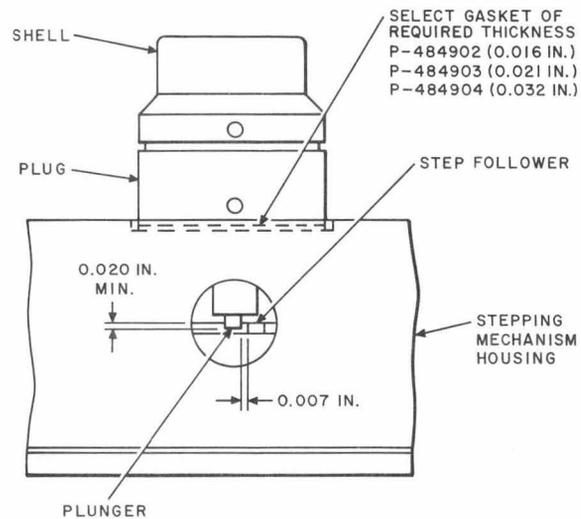
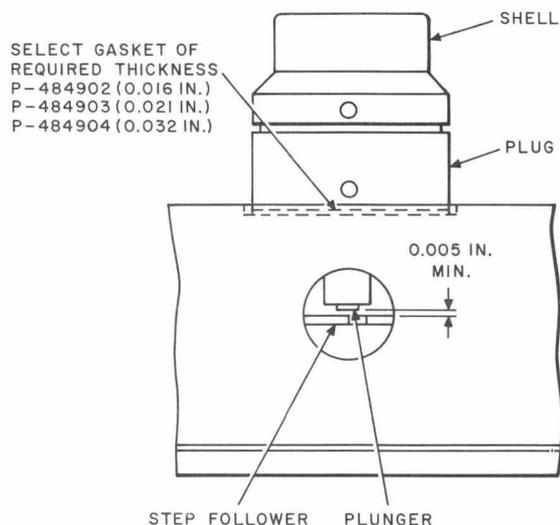

Fig. 30—Minimum Extension of Plunger in Notch of Step Follower
Fig. 31—Minimum Clearance Between End of Plunger and Tip of Step Follower
- (1) Place the reader on its side with the control contact assembly down. Remove the cover from the reading contact assembly and remove the four mounting plate screws, using the proper size Allen wrench. Remount the cover to avoid damage to the contacts. Carefully move the reading contact assembly to a position that will make the interposer magnet accessible. The tape shoes and, if provided, the loose tape plate forming part of the tape chute assembly will drop out of place when the reading contact assembly is removed.
- (2) If the heli-coil inserts in the tapped holes in the reader frame for mounting the reading contact assembly mounting plate are loose or damaged, replace them as covered in 3.53 through 3.57.
- (3) Remove the output tape plate with the 3-inch C screwdriver. The screws holding the tape plate in position thread into a metal strip back of the baffle. Hold this strip while removing the screws and remove the strip when it becomes loose.
- (4) Remove the two interposer magnet leads from the terminal strip with the 3-inch C screwdriver. Remove the leads from the clip. Remove the interposer magnet assembly and the associated gasket using the 647A spanner wrench applied to the plug shown in Fig. 30. Gaskets for mounting under the plug of the interposer magnet assembly are obtainable in three thicknesses: 0.016 inch (P-484902), 0.021 inch (P-484903), and 0.032 inch (P-484904). Substitute a new gasket as required. Ordinarily, the new gasket should be the same thickness as the one replaced in order to meet the conditions noted below. The gasket is used to set the relationship between the plunger and the follower so that
- (a) The tip of the plunger extends into the notch in the step follower 0.020 inch minimum, as shown in Fig. 30, and
- (b) The plunger clears the face of the step follower by 0.005 inch minimum, as shown in Fig. 31, when the magnet is energized on
(1) Check the condition of the stepper plug assembly gasket. If the gasket is damaged, substitute a new gasket. Remove the plug in the shell adjacent to the interposer magnet using the 4-inch E screwdriver.
(2) Rotate the stepper plug shaft until the step follower is on the high portion of the cam. Since this position of the follower is used to properly position the stepper plug in the shell, take care to avoid moving the shaft while mounting the plug as covered below. Mount the stepper plug in the shell with the gasket in place and tighten the mounting screws friction tight. Position the stepper plug in the shell so that the clearance between the interposer magnet plunger and the side of the notch in the step follower is 0.007 inch (Fig. 30). Use the 129A gauge inserted through the hole in the shell to measure this clearance. Securely tighten the plug mounting screws and recheck the clearance. If the gasket extends beyond the plug flange, trim the gasket flush using the single-edged razor blade.
(3) Check whether the tip of the plunger extends into the notch of the step follower 0.020 inch as shown in Fig. 30 and whether the plunger clears the face of the step follower by 0.005 inch as shown in Fig. 31. Make these checks and adjust, if necessary, as covered in 3.34(4), (5), and (6).◆
(4) Mount the stepper and drum assembly in the gear box, taking care not to damage the drum. Mount the dogs which secure the plug in place and tighten the screws friction tight using the proper size Allen wrench. Place the interposer magnet leads under the clip and tighten the clip screw. Remount the reading contact assembly. Connect the interposer magnet leads to the terminal strip. Position the stepper plug assembly so that the marks previously made on the shell and gear box are in alignment and securely tighten the screws in the dogs. If the lines were not scribed on the shell and gear box, as covered in 3.36(6), position the shell as follows. Set the dial at 150. With the dog mounting screws friction tight, carefully rotate the shell in either direction until the edges of the holes in the drum engaging the reading pins